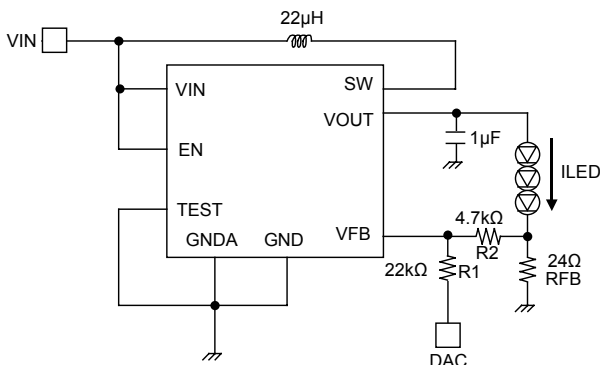

Fig.20 The brightness adjustment
1) PWM brightness adjustment is made by giving PWM signal to EN as shown in Fig.20.